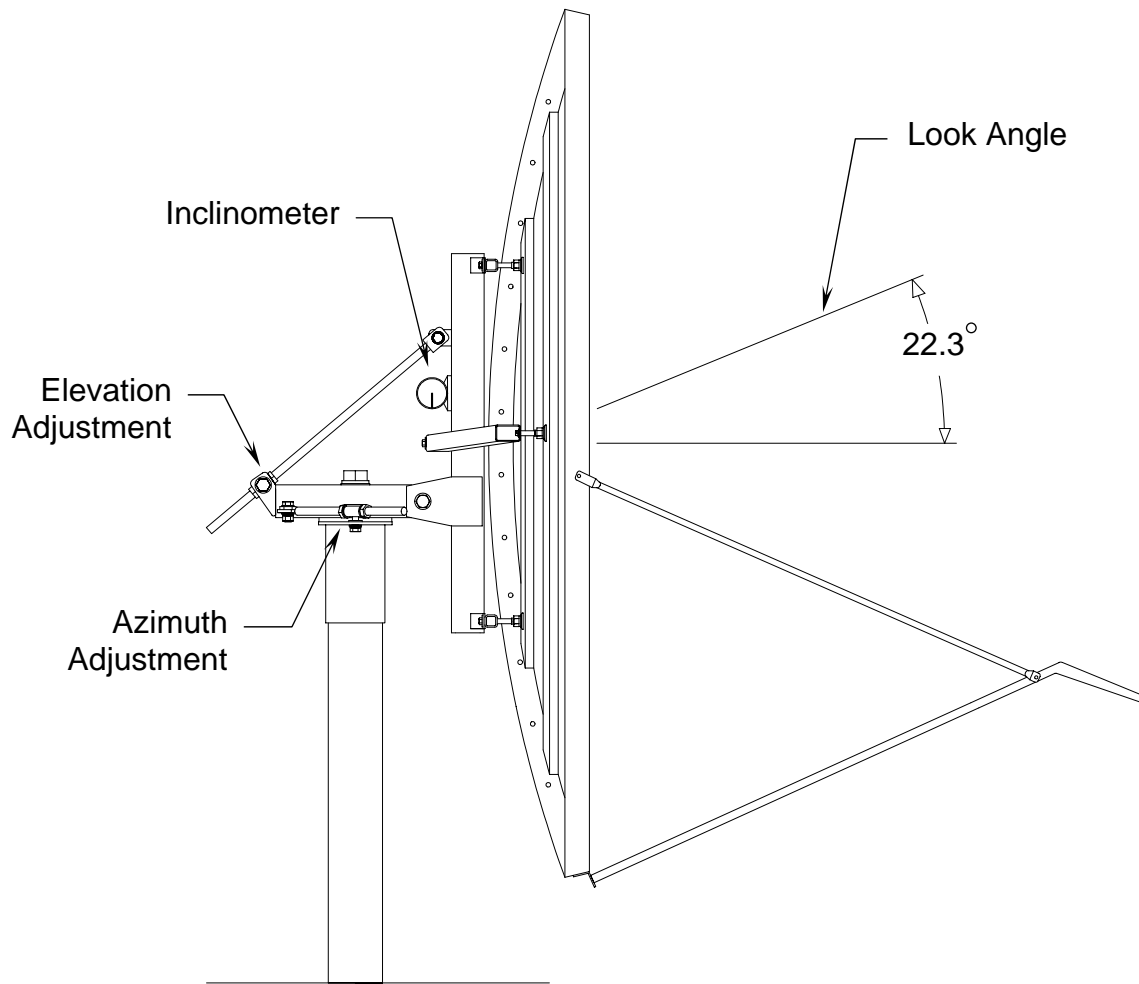

Figure 4
- 1) Place an inclinometer on the reflector support as shown in Figure 4. Remember to add 22.3 degrees to the reading to allow for the reflector's offset angle ( or subtract 22.3 degrees if inverted)